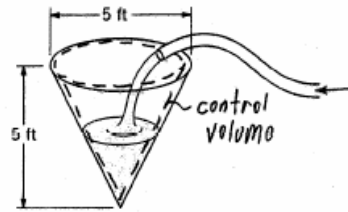

FIGURE P5.22
5.22 Estimate the time required to fill with water a cone-shaped container (see Fig. P5.22) 5 ft high and 5 ft across at the top if the filling rate is 20 gal/min.